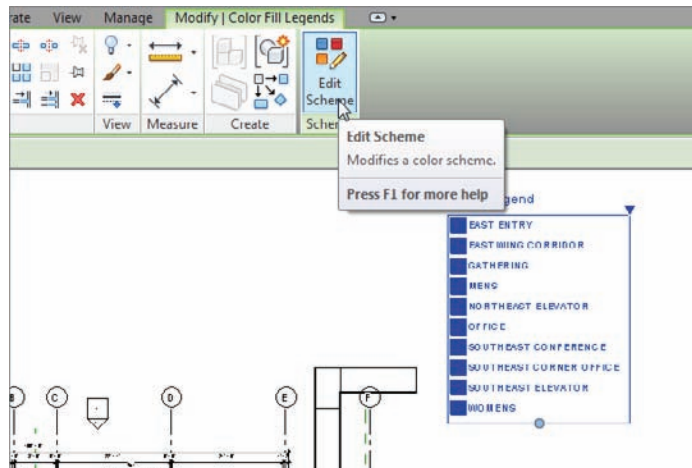

FIGURE 15.20 Proceeding to edit the scheme
11. Click the Edit Scheme button on the Modify | Color Fill Legends tab, as shown in Figure 15.20.